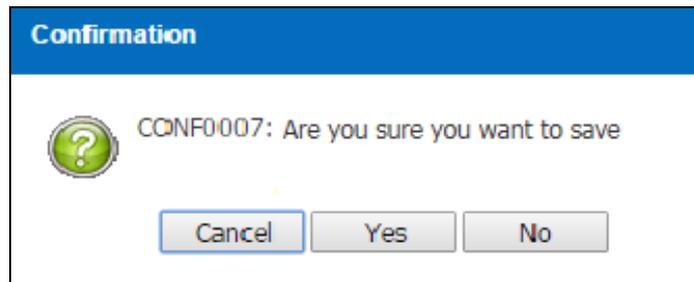

Figure 3.6.1-5 Confirmation Message
- System will display a Confirmation Message as Figure 3.6.1-5